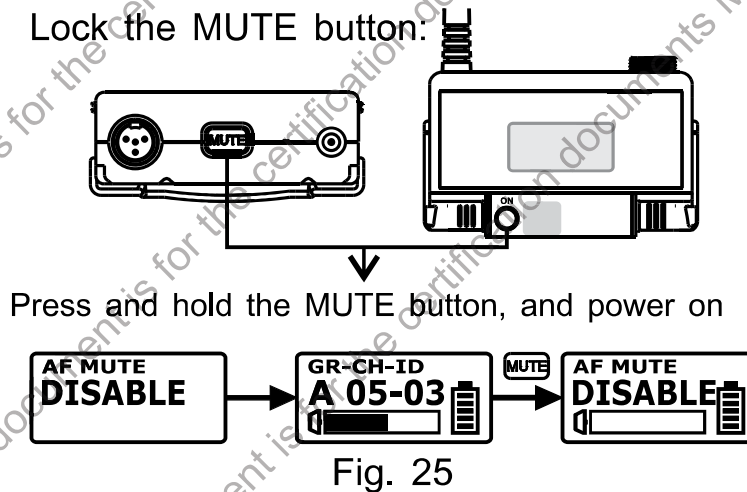

Fig. 25
- (3) Lock: Power off. Press and hold the MUTE button, and power on to disable the MUTE button. LCD shows DISABLE. Fig. 25